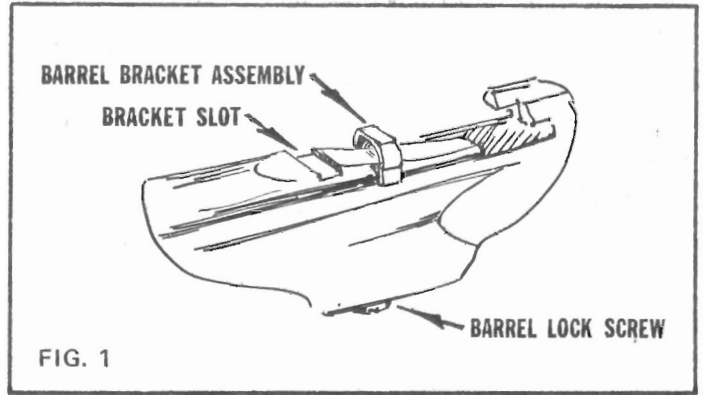

FIG. 1
**To Disassemble** — Cock rifle and push safety ON SAFE. Remove bolt handle and receiver cover assembly. Reassemble bolt handle to bolt. Unscrew barrel lock screw a number of turns until nearly removable. Push upward on loosened screw until barrel bracket assembly slides upward in stock and clear of bracket slot in barrel. Pull loosened barrel forward and remove from rifle. See Fig. 1.